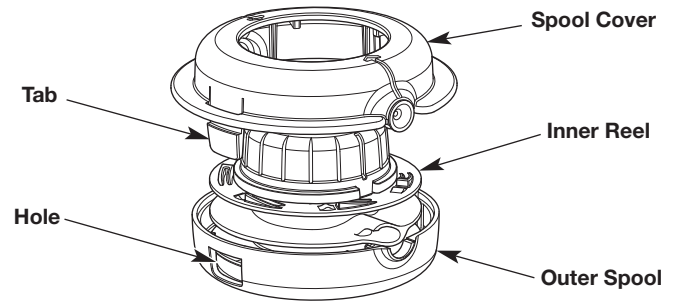

Fig. 19
1. Firmly press in the tabs on the cutting head (Fig. 19).
2. Remove the spool cover (Fig. 19).
4. Use a clean cloth to clean the inner reel, outer spool and spool cover (Fig. 19).
5. Align the tabs on the spool cover with the holes on the outer spool (Fig. 19). Push the spool cover onto the outer spool until the tabs securely snap into the holes.